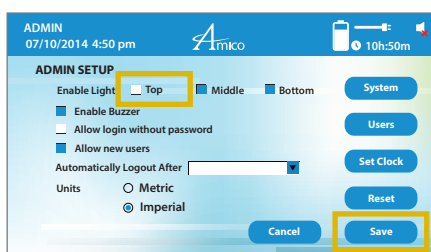

Figure 9
3. Select the checkbox for "Top" in the "Enable Light" section and press "Save" (**Figure 9**). The main ADMIN screen should display three (3) LED options: "Top", "Middle", and "Bottom".